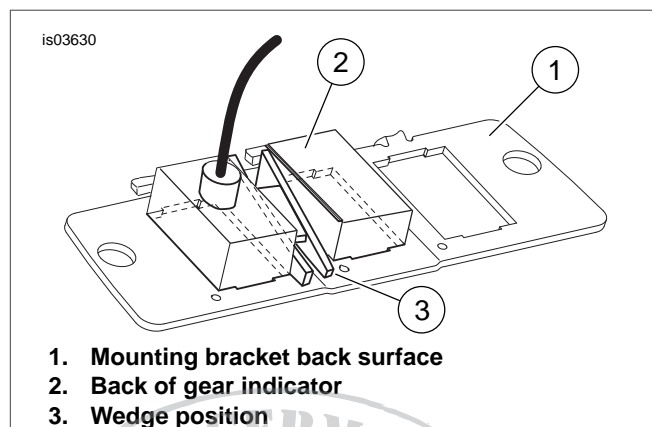
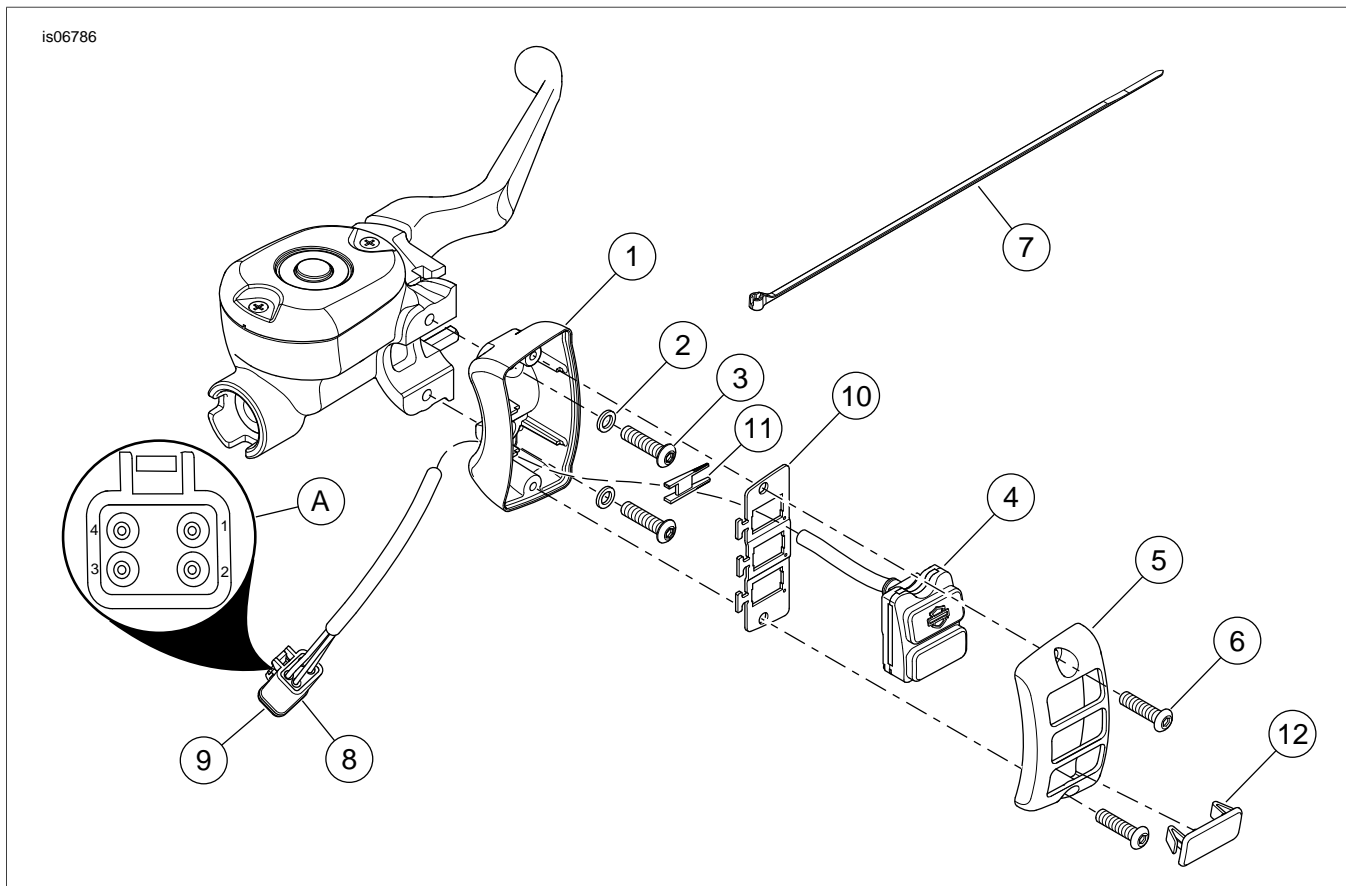

Figure 2. Mounting Bracket and Indicator Assembly Back View
Figure 3. Service Parts: Digital Gear Indicator
See Figure 3 and Table 1.
3. See Figure 3. Install gear indicator lower housing (1), washers (2) and screws (3). Tighten screws to 60-80 in-lbs (8-9 Nm).
4. See Figure 2. Install the gear indicator (2) with the wires into the upper mounting bracket opening.
5. Slide the wedge (3) with the pointed ends between the two boxes on the back of the gear indicator (2) from the tab side of the bracket (1). The wedge pointed ends are different thicknesses and have to conform to the step of the housing plate surface. This will secure the gear indicator tightly to the mounting bracket surface.
6. See Figure 3. Route the wiring harness of the gear indicator through the hole in the bottom of the lower housing (1).
7. Orient the gear indicator assembly (4) over the assembly mounting holes of the lower housing.
9. Install upper housing (5) over the lower housing and secure with two screws (6). Tighten the screws to 35-45 **in-lbs** (4-5 Nm).
10. Install the switch plug (12) in the lower opening of the upper housing.
12. See Figure 3. Install the three pins of the wiring harness into the 4-way socket housing (A) from the kit as follows:
- a. Install the black (BK) wire into terminal 2.
- c. Install the orange (O) wire into terminal 4.
- d. Install secondary lock (9) into the 4-way socket housing.
14. Gather any excess harness and secure near the connector with a cable strap (7).
15. Secure the gear indicator harness to the handlebar and main harness with cable straps (7).